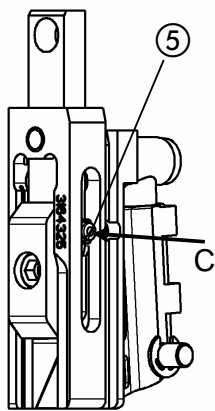
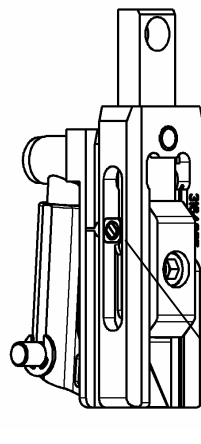
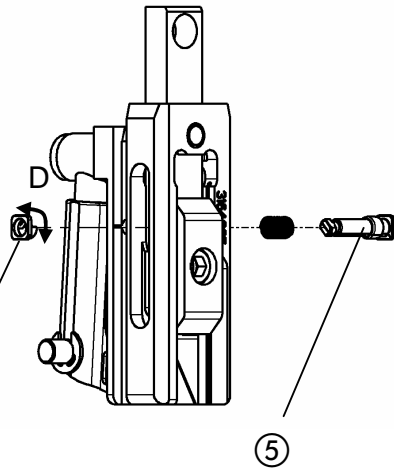

Fig. 28
Fig. 29
Fig. 30
- Fig. 28, Fig. 29, Fig. 30 -
- Press actuating pin ⑤ into the bender (arrow C) until the pin retainer ④ protrudes far enough from the bender to enable it to be turned.